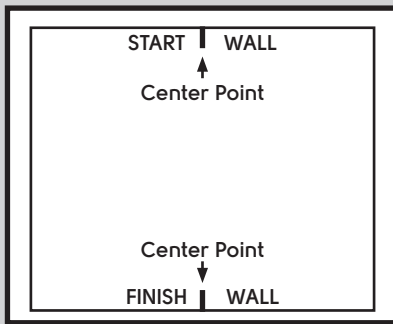

Fig 1.
1. Pattern Layout: Measure to find the center of the room on the start wall and the finish wall (Fig 1.).